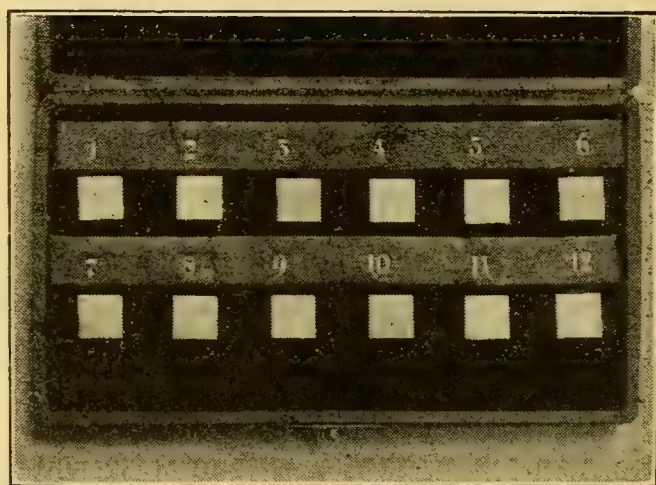

FIGURE 89.—DENSITY CUBES.
59. Density. — Iron is heavier than tin and lead is heavier than iron. By this we mean that, if we take equal-sized pieces of the three materials (Figure 89), the lead has the greatest weight. So we conclude that there are more pounds per cubic foot (or grams per cubic centimeter) of lead than of iron or of tin. That is, the lead has the greatest *density*, for *density is the mass per unit volume of a substance.*